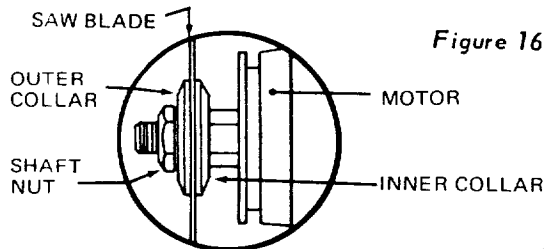

Figure 16
4. Squaring the Crosscut Travel (Figures 16 through 23)